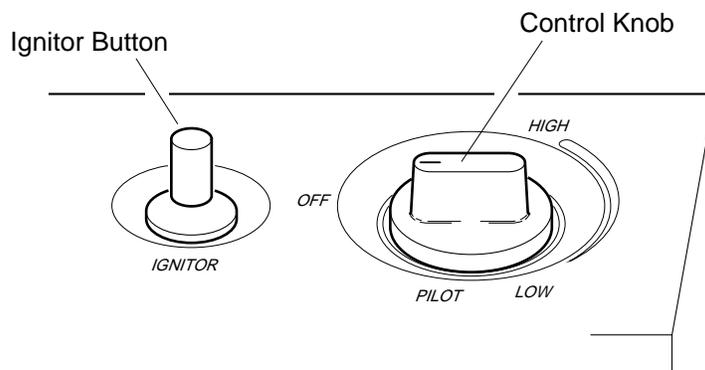

Figure 13 - Control Knob In The OFF Position
4. Wait five (5) minutes to clear out any gas. Then smell for gas, including near the floor. If you smell gas, STOP! Follow “B” in the safety information at the top of page 13. If you don’t smell gas, go to the next step.
5. Press in control knob and turn counterclockwise  to the PILOT position. Keep control knob pressed in for five (5) seconds (see Figure 13).